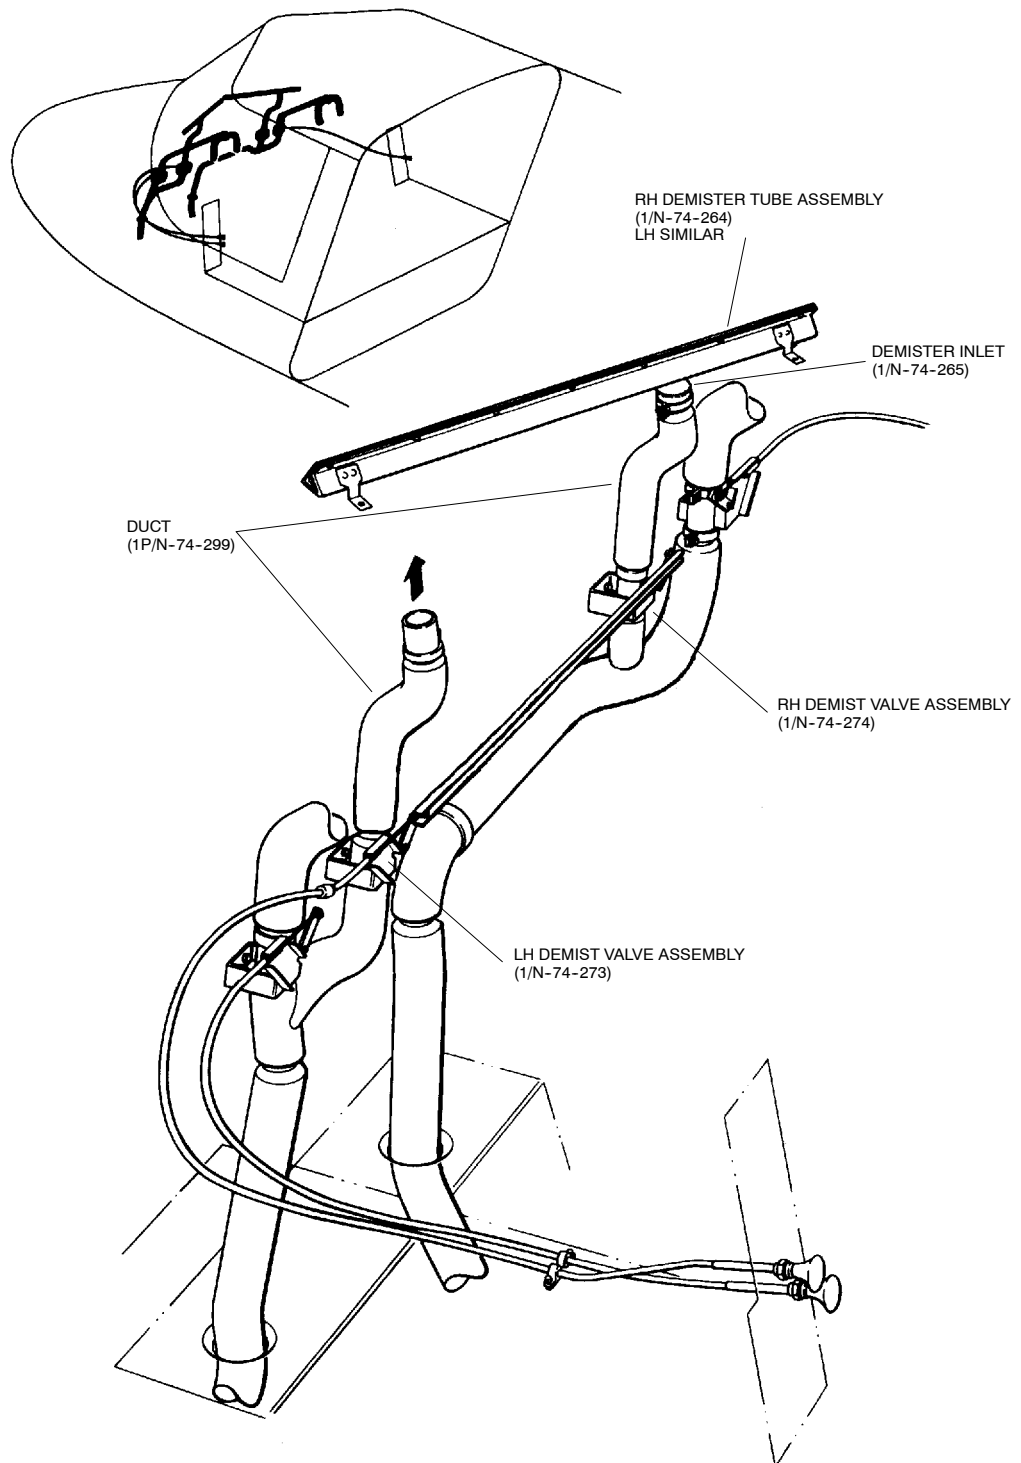

Figure 1 Basic Aircraft Demist Installation
- (1) Set BATTERY switch on the overhead console to OFF and ensure external power removed.
- (2) Remove instrument panel shrouds.
- (3) On the left-hand side, forward of the instrument panel, detach demist duct (1/N-74-299) at Demist Plate Valve and Demist Inlet (Ref Fig 1). Remove and discard duct and attaching clamps.
- (4) Remove the two machine screws (MS35207-263) and washers (AN960PD10) securing the Demister Tube Assembly to the forward diaphragm assembly (1/N-10-45). Remove Demister Tube Assembly from the aircraft.
- (5) De-rivet (4 off Pop rivets) the Demist Inlet (1/N-74-265) from the Demister Tube Assembly. Retain Demist Inlet and discard Demister Tube Assembly.
- (6) Repeat steps (3) to (5) for the right-hand components.